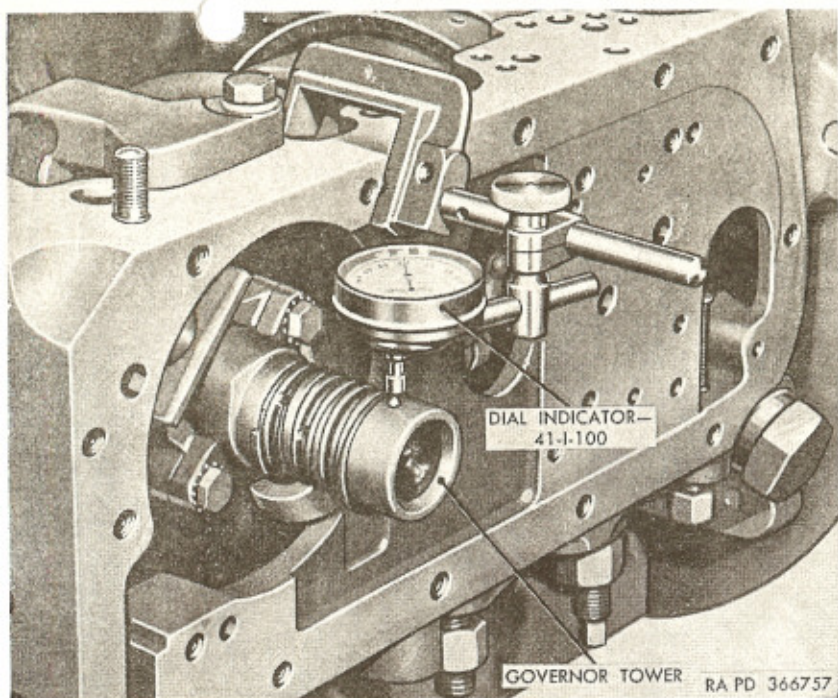

Figure 193. Checking governor runout.
b. Check governor runout in manner shown in (1) through (3) below.
(1) Mount dial indicator—41-I-100 (fig. 193) on transmission with indicator spindle contacting governor tower approximately one-quarter inch from end of tower.